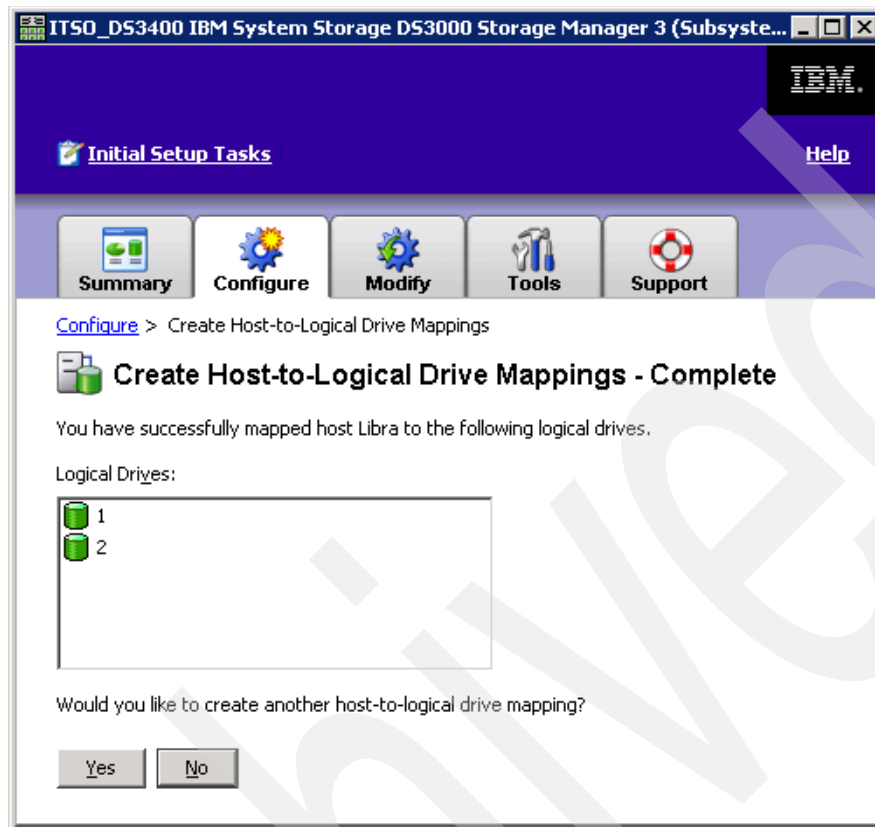

Figure 9-37 Create Host-to-Logical Drive Mappings - Complete
3. Click **Finish**, and you will see a progress bar while the mappings are created. When the task completes, you will see the confirmation window, as shown in Figure 9-37.